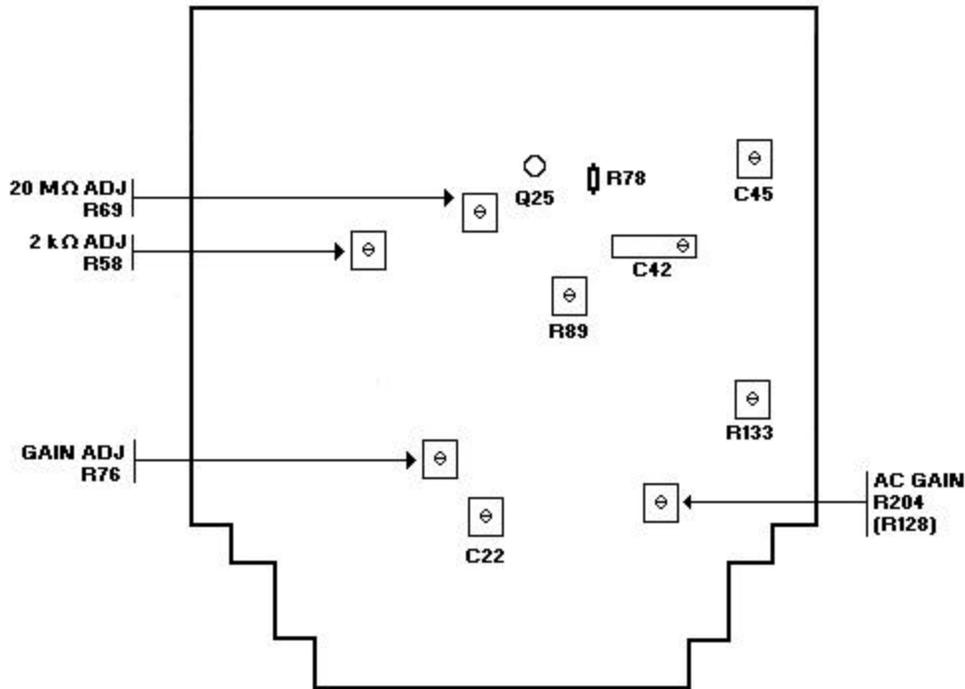

Figure 1. Adjustment locations (models 3465A and 3465B) - bottom view.
**b. Adjustments.** Adjust **GAIN ADJ R76** (fig. 1) for a TI indication of 10.000 ( $\pm 3$  digits) (R).
- (1) Press TI **2 k** range pushbutton and disconnect calibrator from TI.
- (2) Short TI **VW** and **COM**.
- (3) Connect multimeter to junction of R78 and Q25 (fig. 1). Adjust 20 M $\Omega$  ADJ R69 (fig. 1) for a multimeter indication of < 500  $\mu$ V (R).
- (4) Remove short from TI **VW** and **COM** and disconnect multimeter.
- (5) Connect calibrator **OUTPUT HI** and **LO** to TI **VW** and **COM**.
- (6) Set calibrator for a 1 k $\Omega$  output and **2 wire Comp** on. Adjust 2 k $\Omega$  ADJ R58 (fig. 1) for a TI indication equal to calibrator output display rounded to TI digits of resolution ( $\pm$ 2 digits) (R).
- (7) Press TI **20 M** range pushbutton.
- (8) Set calibrator **2 wire Comp** off and output to 10 M $\Omega$ . Adjust 20 M $\Omega$  ADJ R69 (fig. 1) for a TI indication equal to calibrator output display rounded to TI digits of resolution ( $\pm$ 1 digit) (R).
- (9) Press TI **2 k** range pushbutton.
- (10) Repeat (6) through (9) above for best compromise.
- (1) Set calibrator to **STANDBY**.
- (2) Press TI **2** range pushbutton.
- (3) Set calibrator for a 1 V, 200 Hz output. Adjust AC GAIN R204 (R128) (fig. 1) for a 1.0000 TI indication (R).
- (4) Set calibrator for a 100 mV, 200 Hz output.
- (5) Press TI **200 m** range pushbutton. Adjust R133 (fig. 1) for a 100.00 TI indication (R).
- (6) Press TI **2** range pushbutton.
- (7) Set calibrator for a 100 mV, 20 kHz output. Adjust C45 (fig. 1) for a .1000 (±1 digit) TI indication (R).
- (8) Press TI **200 m** range pushbutton. Adjust C42 (fig. 1) for a 100.04 (±1 digit) TI indication (R).
- (9) Press TI **20** range pushbutton.
- (10) Set calibrator for a 10 V, 20 kHz output. Adjust C22 (fig. 1) for a 10.008 (±1 digit) TI indication (R).
- c. Set calibrator for a 1 V dc output. If TI does not indicate 1.0000, adjust R89 (fig. 1) for a 1.0000 TI indication (R).